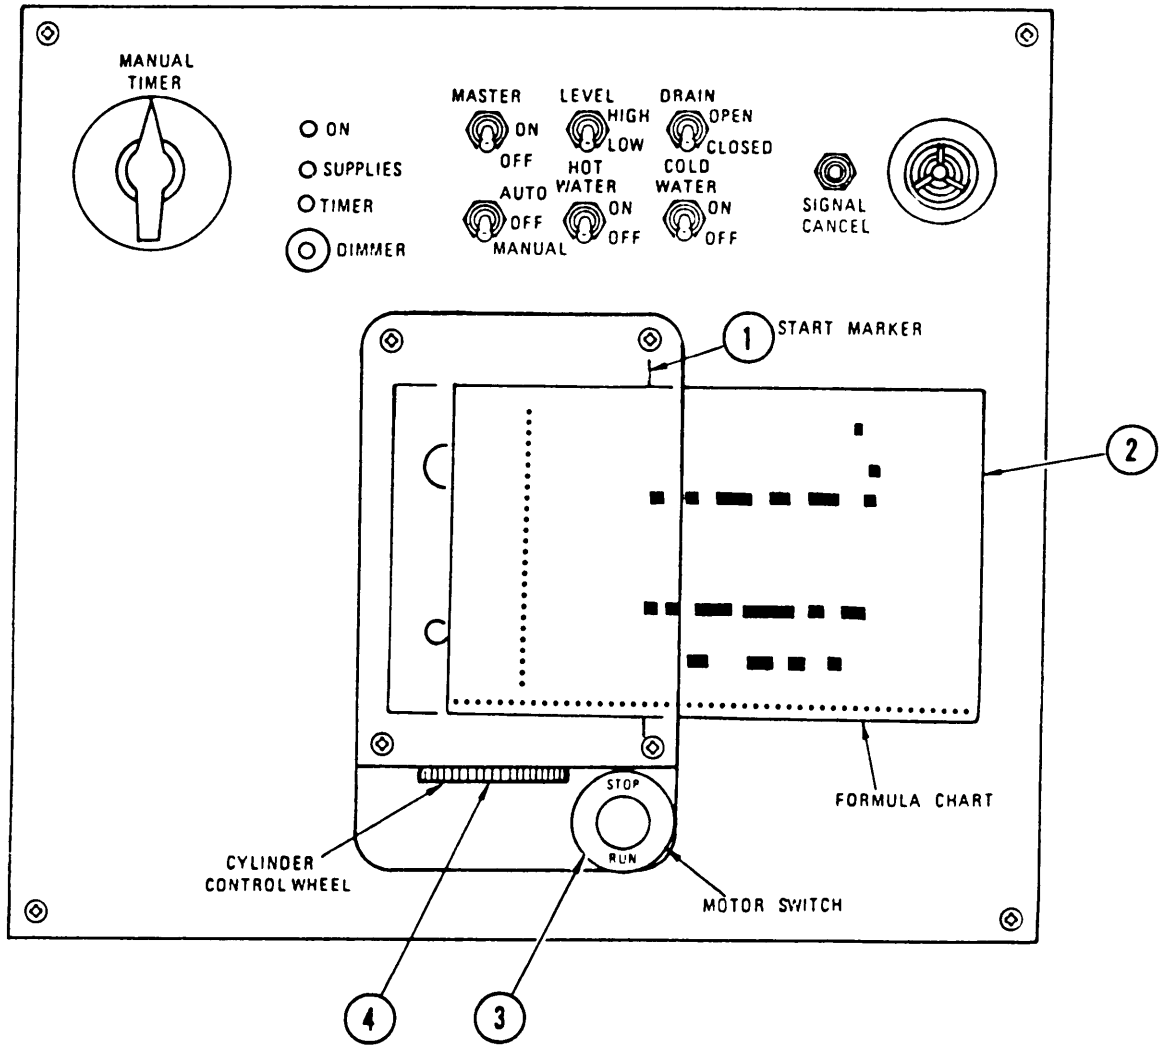

Figure 2-20. Formula Chart Removal.
- (a) Place Run/Stop knob (3, figure 2-20) in stop position.
- (b) Pull formula chart (2) to the side and remove.
- (d) Using cylinder control wheel (4) align start position with hairline start marker (1) on timer front and place Run/Stop knob (3) in RUN position. Timer is now ready to start.